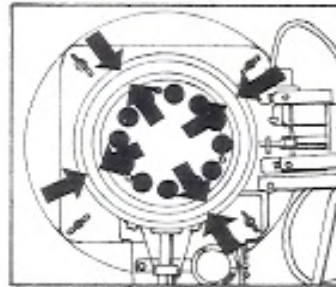

Fig. 21
- (6) Insert the new wick and pierce with the sharp projection inside the wick holder. The new wick should be installed with the bottom line of the tape at the bottom line of wick holder
- (7) Put the wick holder assembly into the wick guide cylinder with the wick control shaft pointing front
- (8) Insert the flame adjusting knob into the shaft.
- (9) Turn wick up and down to make sure the wick fits in the holder and moves smoothly. If not, repeat wick installation procedure from step (6).
- (10) Tighten each two diagonal wing nuts simultaneously so that the gap for up and down movement of the wick is even throughout. (Fig. 21)